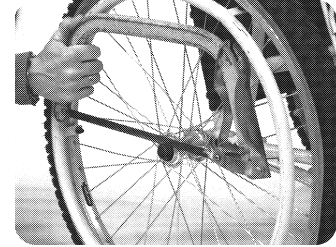

Figure 3.43
**Rusted nut?** Apply a mixture of **light oil and kerosene** so that it can flow onto the threads of the bolt and nut, then wait. Try to loosen the nut periodically over the next few hours. If it is not possible to loosen the nut, **cut the head of the bolt off** with a hacksaw (Figure 3.43), remove the bolt, and replace it.